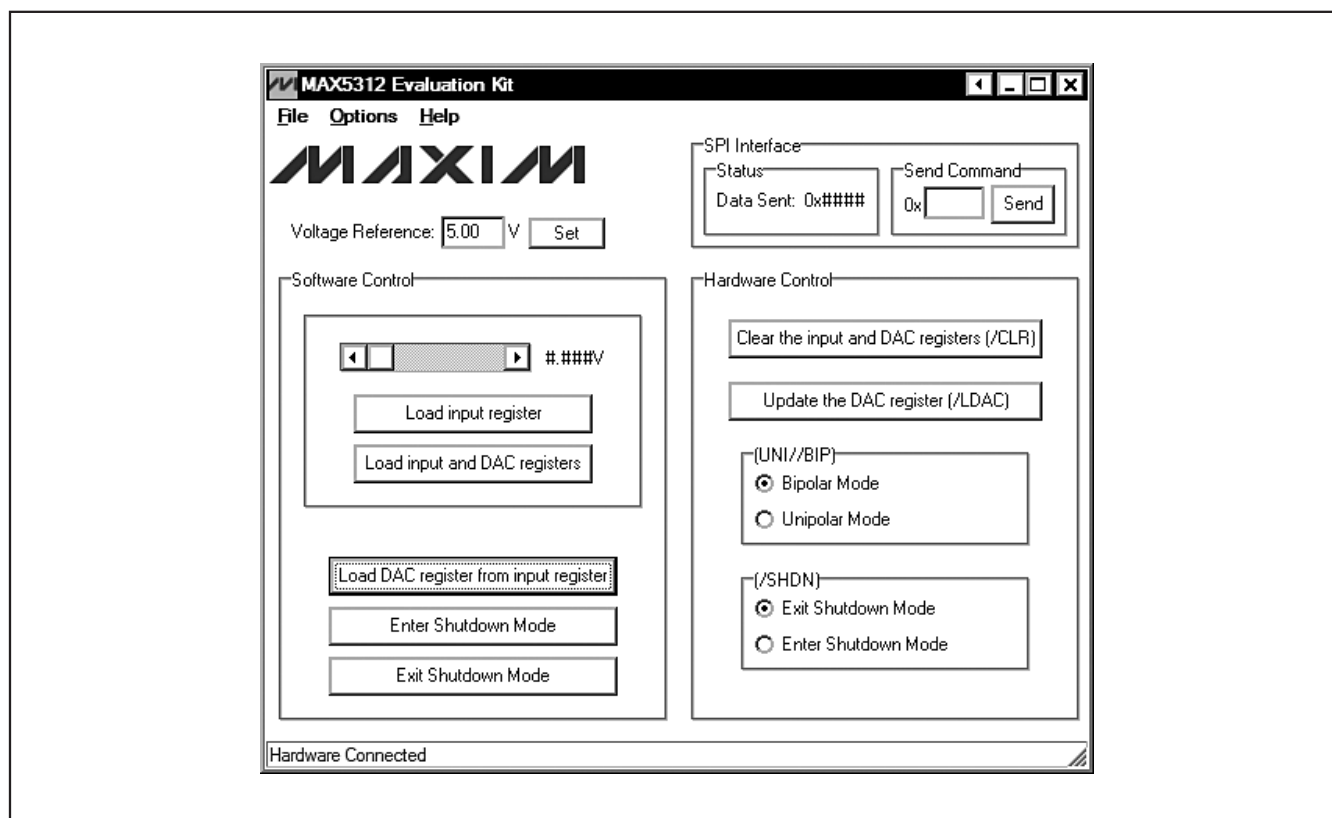

Figure 1. MAX5312 EV Kit Software Main Window
- 13) Start the MAX5312 EV kit software by opening its icon in the **Start | Programs** menu. The EV kit software main window appears, as shown in Figure 1.
To start the MAX5312 EV kit software, double-click the MAX5312 EV kit icon that is created during installation. The GUI main window appears as shown in Figure 1. The **Software Control** group box located at the left of the window controls the DAC registers through the SPI interface. The **Hardware Control** group box located at the right of the window controls the **CLR**, **LDAC**, **UNI/BIP**, and **SHDN** pins of the MAX5312 by the GPIOs of the microcontroller. The **SPI Interface** group box at the top right allows the user to transfer SPI commands by entering the commands in the edit box.